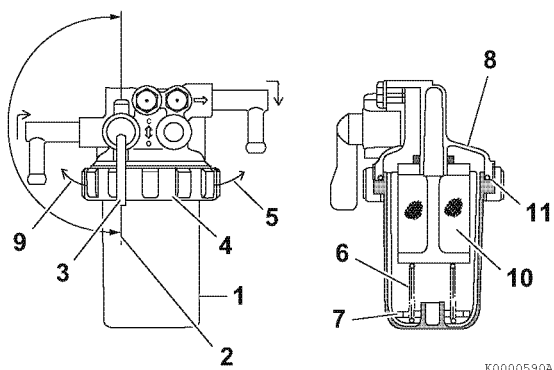

Figure 4
1. Position an approved container under the water separator (1, **Figure 4**) to collect the contaminants.
2. Close (2, **Figure 4**) the fuel valve (3, **Figure 4**).
3. Turn the retaining ring (4, **Figure 4**) to the left (9, **Figure 4**).
4. Carefully remove the cup (1, **Figure 4**). Remove the retaining spring (6, **Figure 4**) and float (7, **Figure 4**) from the cup. Pour the fuel into an approved container and dispose of waste properly. Hold the bottom of the cup with a shop towel to prevent the fuel from dripping. Wipe up any spills immediately.
6. Inspect the condition of the mesh filter (10, **Figure 4**). Clean the mesh filter if necessary.
7. Inspect the condition of the O-ring (11, **Figure 4**). Replace the O-ring if necessary.
8. Put the float (7, **Figure 4**) and retaining spring (6, **Figure 4**) inside the cup.
9. Reinstall the cup to the mounting flange (8, **Figure 4**) and turn the retaining ring (4, **Figure 4**) to the right (5, **Figure 4**) hand-tighten only.
10. Open the fuel valve (3, **Figure 4**).